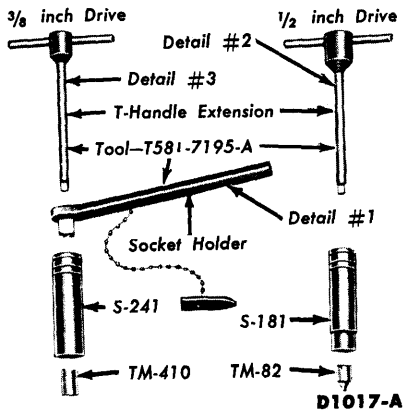

FIG. 14—Front and Rear Band Adjusting Tool
4. Pull the adjusting screw end of the actuating lever away from the servo body, and insert the adjusting tool gauge block (Fig. 14) between
4. Place the socket holder on the $\frac{3}{4}$ -inch socket (Fig. 14). Insert the T-handle extension through the handle and socket. Place the $\frac{5}{16}$ -inch 8-point socket on the extension. Place a torque wrench on the T-handle extension.